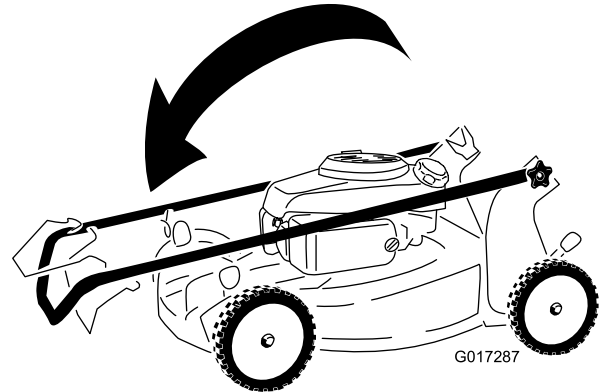

Figure 24
2. Fold the upper handle forward as shown in Figure 24.